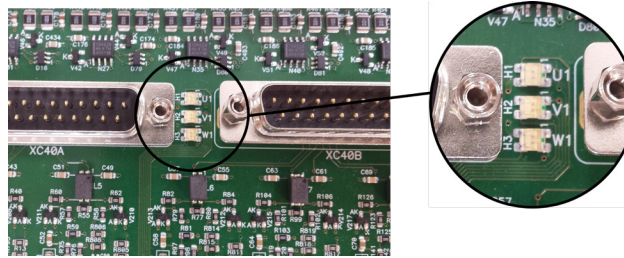

Figure 0.1 - LEDs that indicate fault on the arms of the power units (desaturation)
(1) In case of the CFW-11M/W G2, the HMI does not indicated in which UP11 G2 the fault occurred. LEDs on the ICUP board indicate which UP11 caused the fault, Figure 0.1 on page 0-36. When the reset is executed, the LEDs turn off and turn back on if the fault persists.